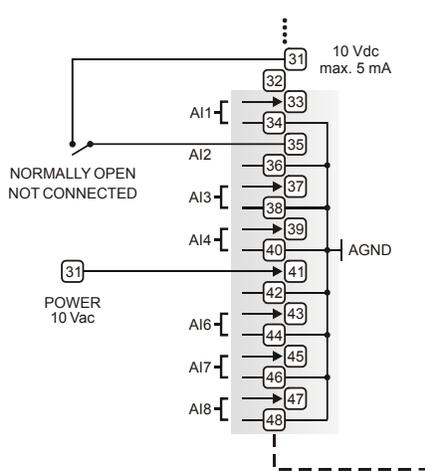

**Fig. 21. Analog inputs, sensor connections**
0 (4)...20 mA (with an external resistor of 499 Ω ±0.25% [see Fig. 21])